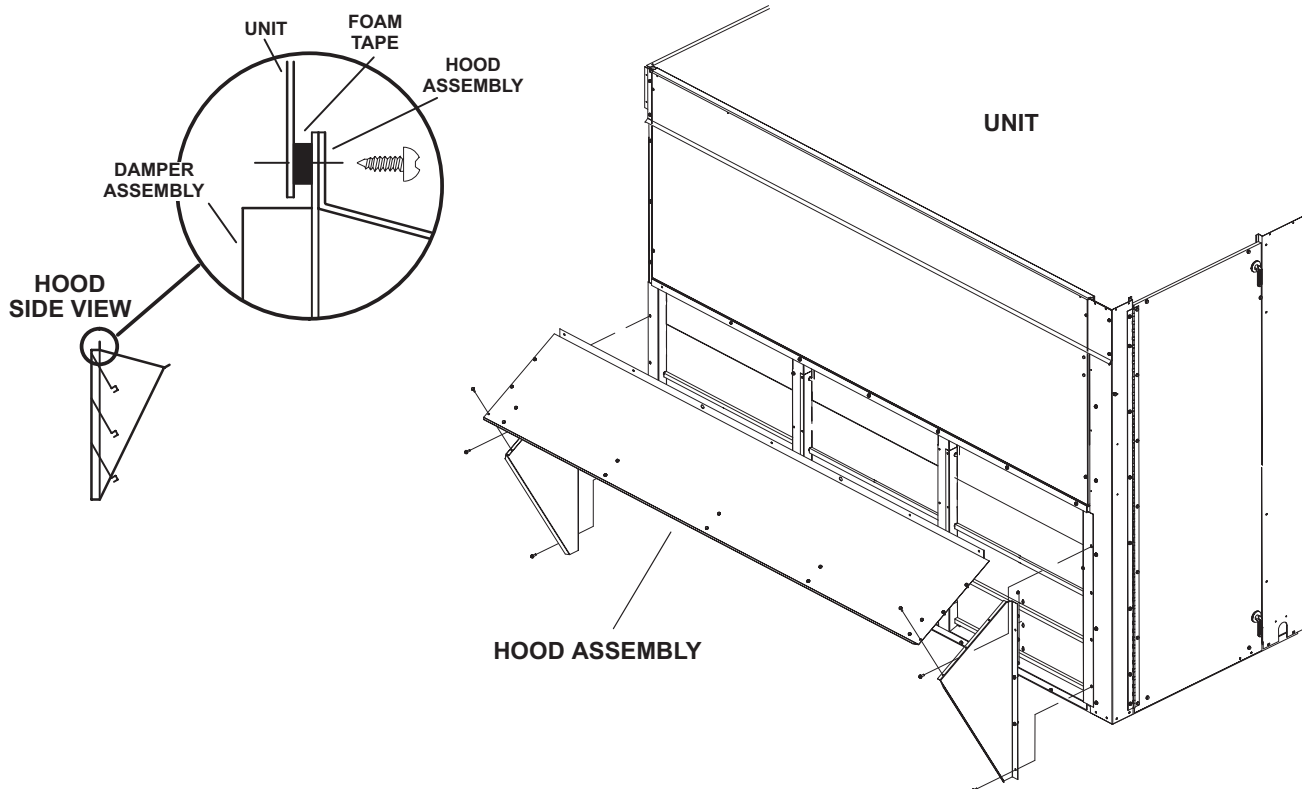

FIGURE 3
- 2 - Secure hood sides to the GED with retained screws. See FIGURE 3.